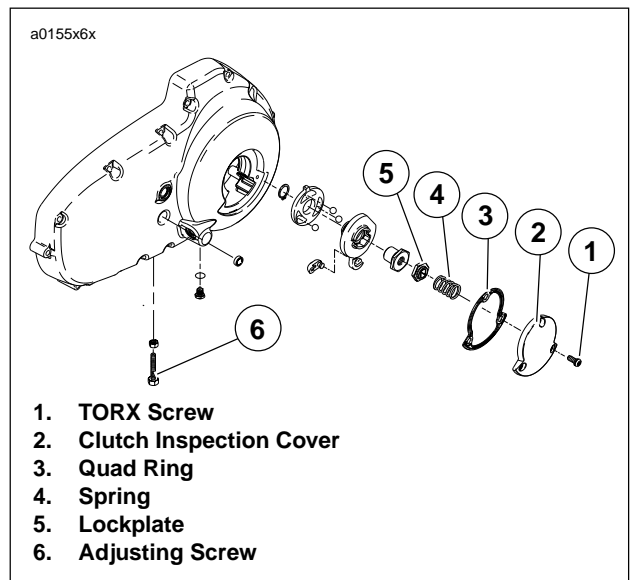

Figure 1-12. Clutch Release Mechanism
4. See Figure 1-12. Remove three TORX screws with washers (1) from clutch inspection cover (2). Remove clutch inspection cover from primary cover.
Quad ring removed from primary cover for illustrative purposes only in Figure 1-12.
9. See Figure 1-12. Install clutch inspection cover using three TORX screws with washers. Tighten in a crosswise pattern to 7-9 ft-lbs (9.5-12.2 Nm).